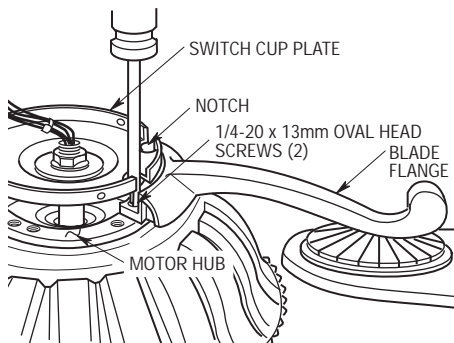

Figure 2
- 4. Rotate the motor hub so that two threaded holes line up with the two notches in the switch cup plate (Figure 2). Position the blade flange on the motor hub so that the screws in the blades flange align with the two threaded holes in the motor hub. Loosely tighten the screws at this time. Repeat this procedure for the remaining four blade assemblies.